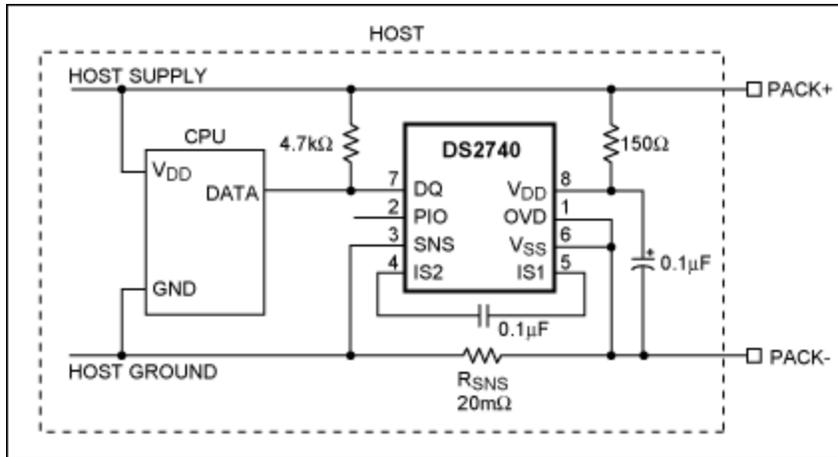

Figure 1. DS2740 installed in the host system.
The schematic in **Figure 1** illustrates a possible solution for using the DS2740 in the host system of a cell phone or personal digital assistant. The circuit shows both the DS2740 and host system being powered by an external battery pack. The pack could be a single-cell Lithium or triple-cell Nickel composition. The PACK+ and PACK- terminals represent the connection to the external battery pack. The 150 $\Omega$  resistor from PACK+ to VDD of the DS2740 is for ESD immunity. The resistor helps limit current spikes into the part, and protect against over-voltage conditions. The other passive component on the VDD line is the 0.1 $\mu$ F capacitor. This capacitor helps to filter voltage spikes and keep the voltage within the specified 2.7V to 5.5V range.
The CPU data pin in Figure 1 is an open drain driver similar to the Data I/O (DQ) pin of the DS2740. The DATA and DQ pins are directly connected together, and a 4.7kΩ pullup resistor is used to pull the data line to a logic high. The DS2740 1-Wire bus speed control (OVD) pin is connected to VSS indicating standard 1-Wire timing protocol. For overdrive timing, the OVD pin should be tied to the VDD pin of the part. To monitor the voltage across the sense resistor (RSNS), the SNS pin is connected to the host side of RSNS and VSS is connected to the cell side. The current-sense input pins (IS1 and IS2) are connected to either end of a 0.1μF capacitor. This capacitor and the internal resistors provide a low pass filter for current spikes. The device ground, VSS, must always be connected to the negative terminal of the battery cell. The last pin, PIO, is an open-drain, general-purpose input/output driver, and is left floating in Figure 1. PIO is not necessary for proper device functionality, but usable options include driving an LED or vibrator.